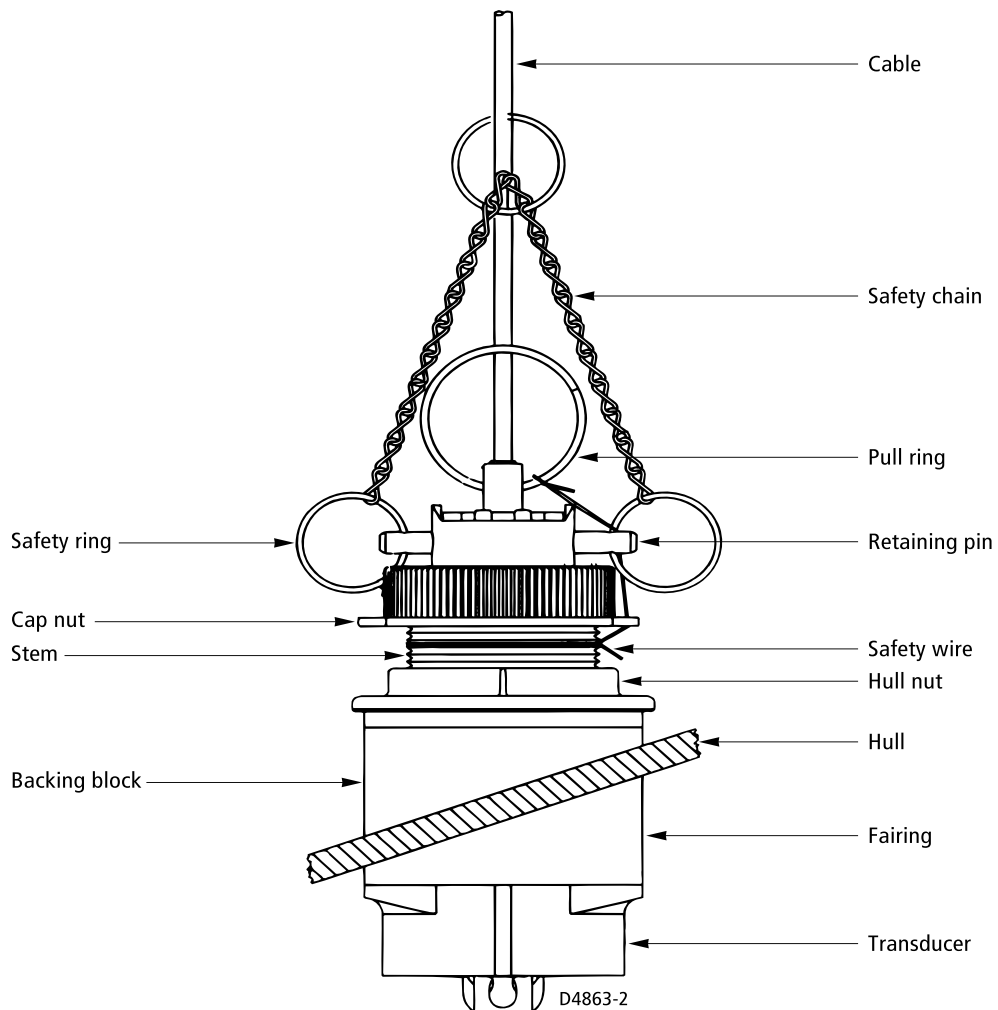

Figure 2-15: Fore View of Transducer Installation
3. From inside the hull, slide the backing block onto the transducer cable and stem, seating it firmly against the hull (Figure 2-15).
13. Slide the center ring of the safety chain onto the cable. Slide the retaining pin in place and reattach the safety ring (Figure 2-15).